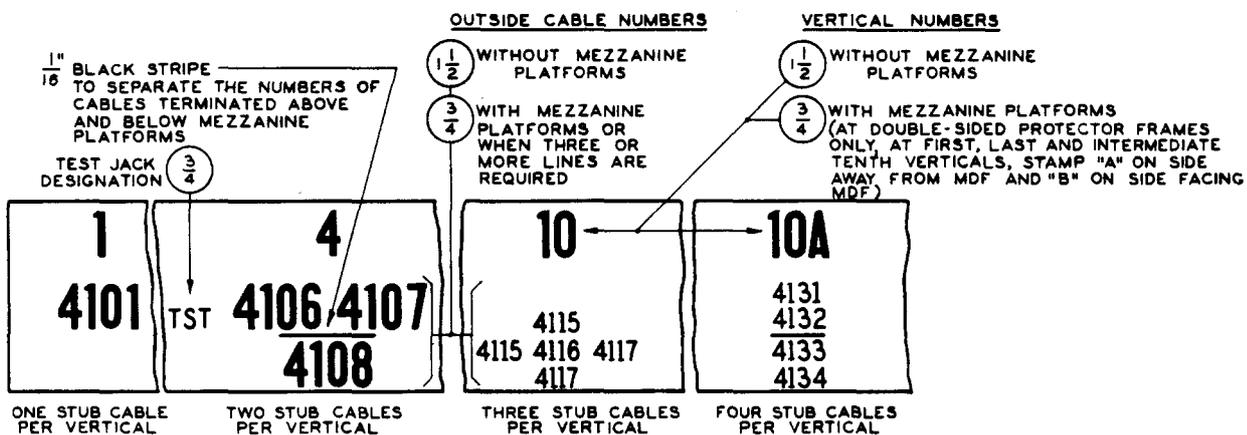

Fig. 1 - Cable Designation Boards - MDF, CDF, and Protector Frames
2.02 *Cable designation boards* shall be stamped, as shown in Fig. 1, in accordance with the following: